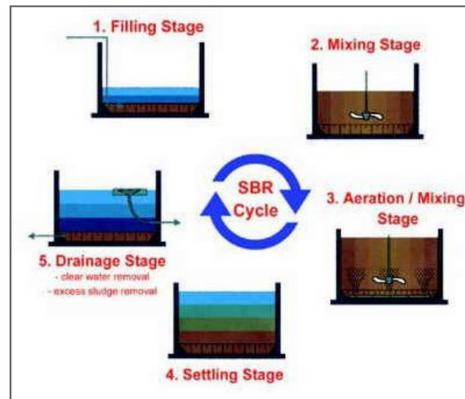

Figure 1: SBR Process Flow
- The biofilm trickling filter (Figure 1, E), anaerobic, and SBR are all on a separate carts to protect the system while not in use and to provide the ability add additional treatment processes without changing the physical lab.